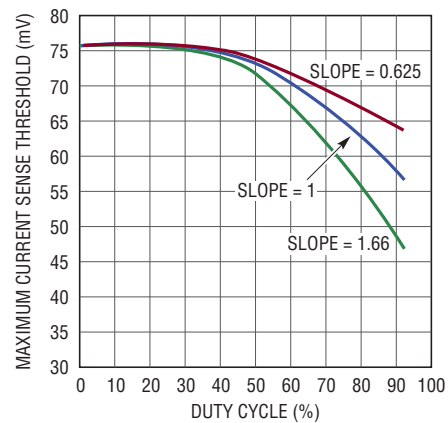

Figure 20. Maximum Sense Voltage Variation with Duty Cycle and Slope Gain
The peak sense voltage threshold for the LTC3862-2 is 75mV at low duty cycle and with a normalized slope gain of 1.00, and is measured from SENSE+ to SENSE-. Figure 20 illustrates the change in the sense threshold with varying duty cycle and slope gain.
11. The maximum current sense threshold for the LTC3862-2 is 75mV at low duty cycle and a normalized slope gain of 1.0. Using Figure 20, the maximum sense voltage drops to 68mV at a duty cycle of 70% with a normalized slope gain of 1, so the sense resistor is calculated to be: